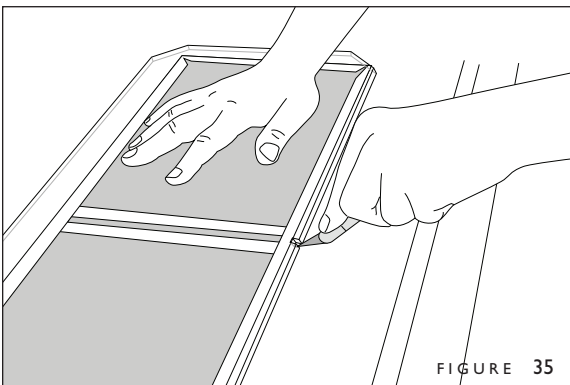

FIGURE 35
5. Center the template over the spine of the Image Back Hardcover with its front edge aligned with the cover's front edge. In the center of the template notch closest to you, cut a slit all the way through the edge of the cover. (Figure 35).